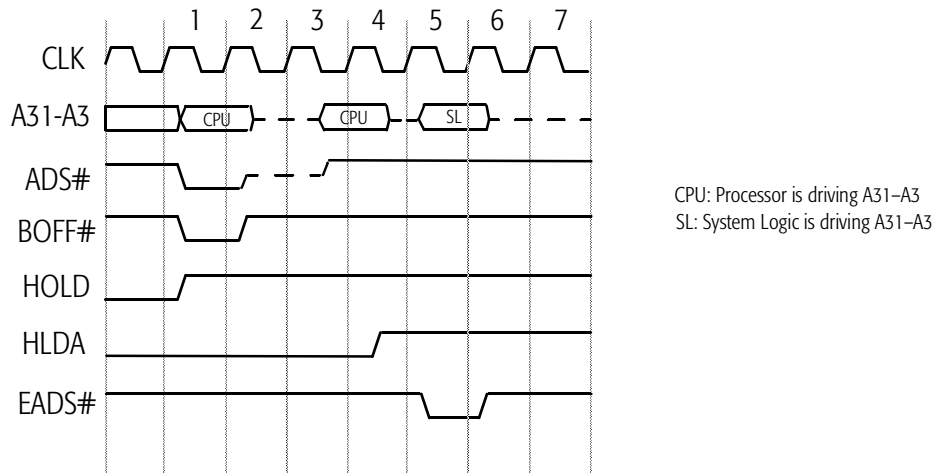

Figure 1. AMD-K6[®]-III Processor Assertion of HLDA Due to Simultaneous BOFF#/HOLD Assertion
- If the system logic asserts BOFF# for a duration of one clock, anticipates the assertion of HLDA in clock 3 (see Figure 1)—which is the normal specified operation—and drives the address bus and EADS# for an inquire cycle in clock 3, then the processor will not sample EADS# asserted. In addition, address bus contention will occur in clock 3.
Suggested Workaround. The system logic must sample the assertion of HLDA before asserting EADS# and driving the address bus for an inquire cycle—as shown in clock 5 of Figure 1.